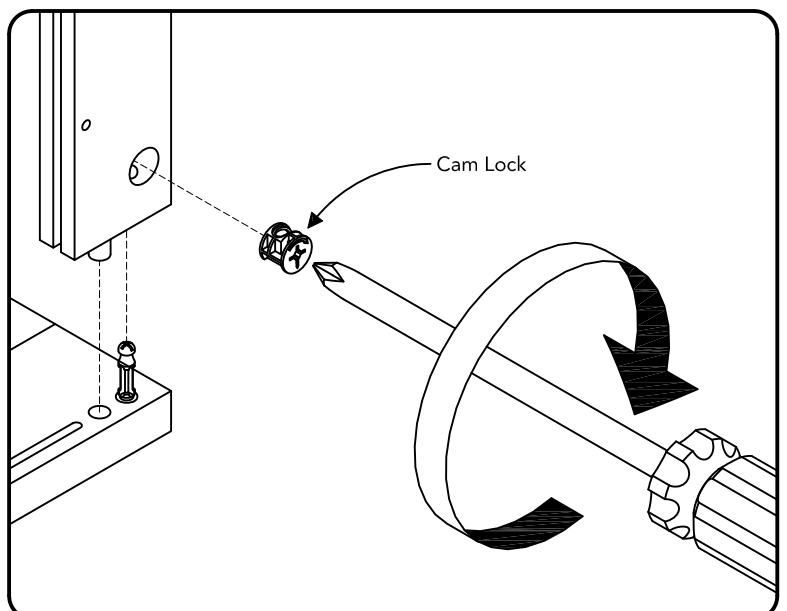

Figure 2
Attach Back Rails (F) and Base (H) to Side Panel (B) with Cam Locks. (See Figure 2)